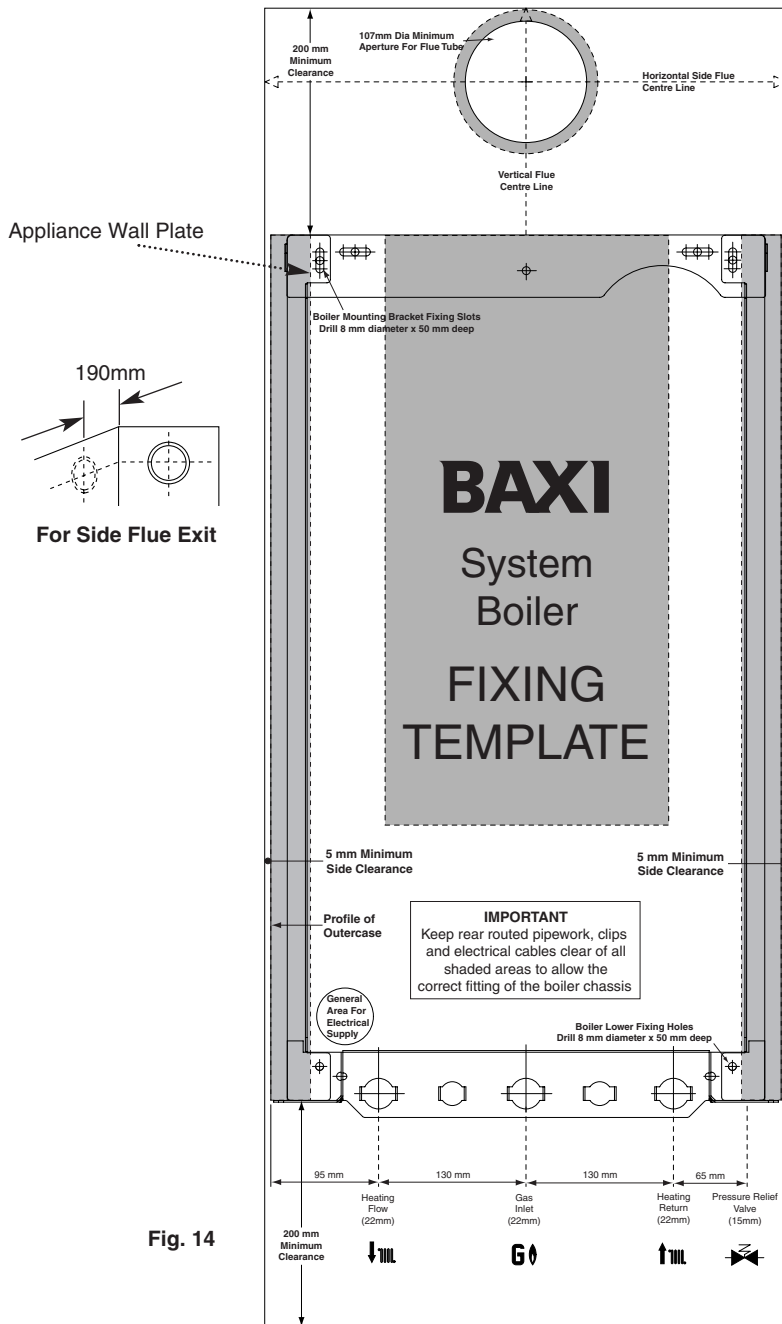

Fig. 14
1. After considering the site requirements (see Section 7.0) position the fixing template (Fig. 14) on the wall ensuring it is level both horizontally and vertically.